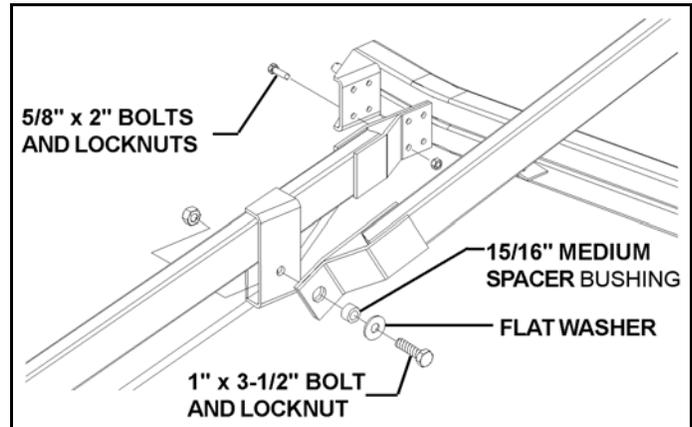

Figure 3.17
7. Fasten upper lift arms to lower reach arms using two medium length 15/16" spacer bushings, flat washers, and 1" x 3-1/2" bolts and locknuts. Tighten securely; lift arms pivot on the spacer bushings (Figure 3.17).